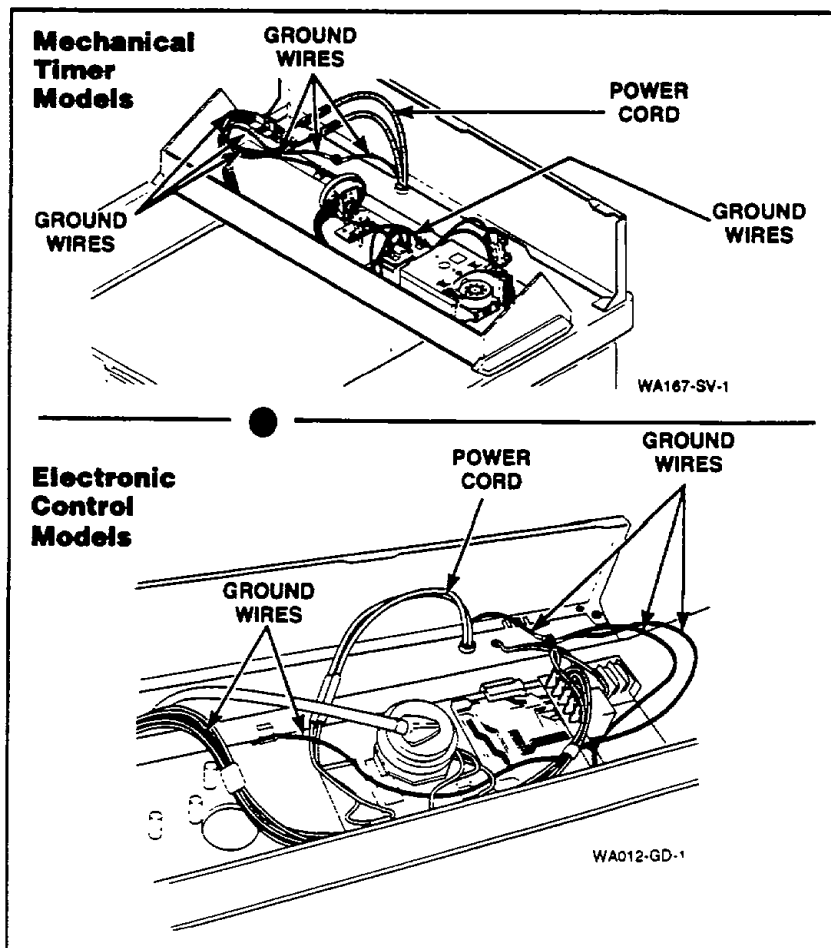

Figure 2
2. POWER CORD TO CABINET TOP, CABINET TOP TO CONTROL HOOD MOUNTING BRACKET, PRESSURE SWITCH MOUNTING BRACKET AND GROUND TAB ON GRAPHIC PANEL, *Figure 2.*